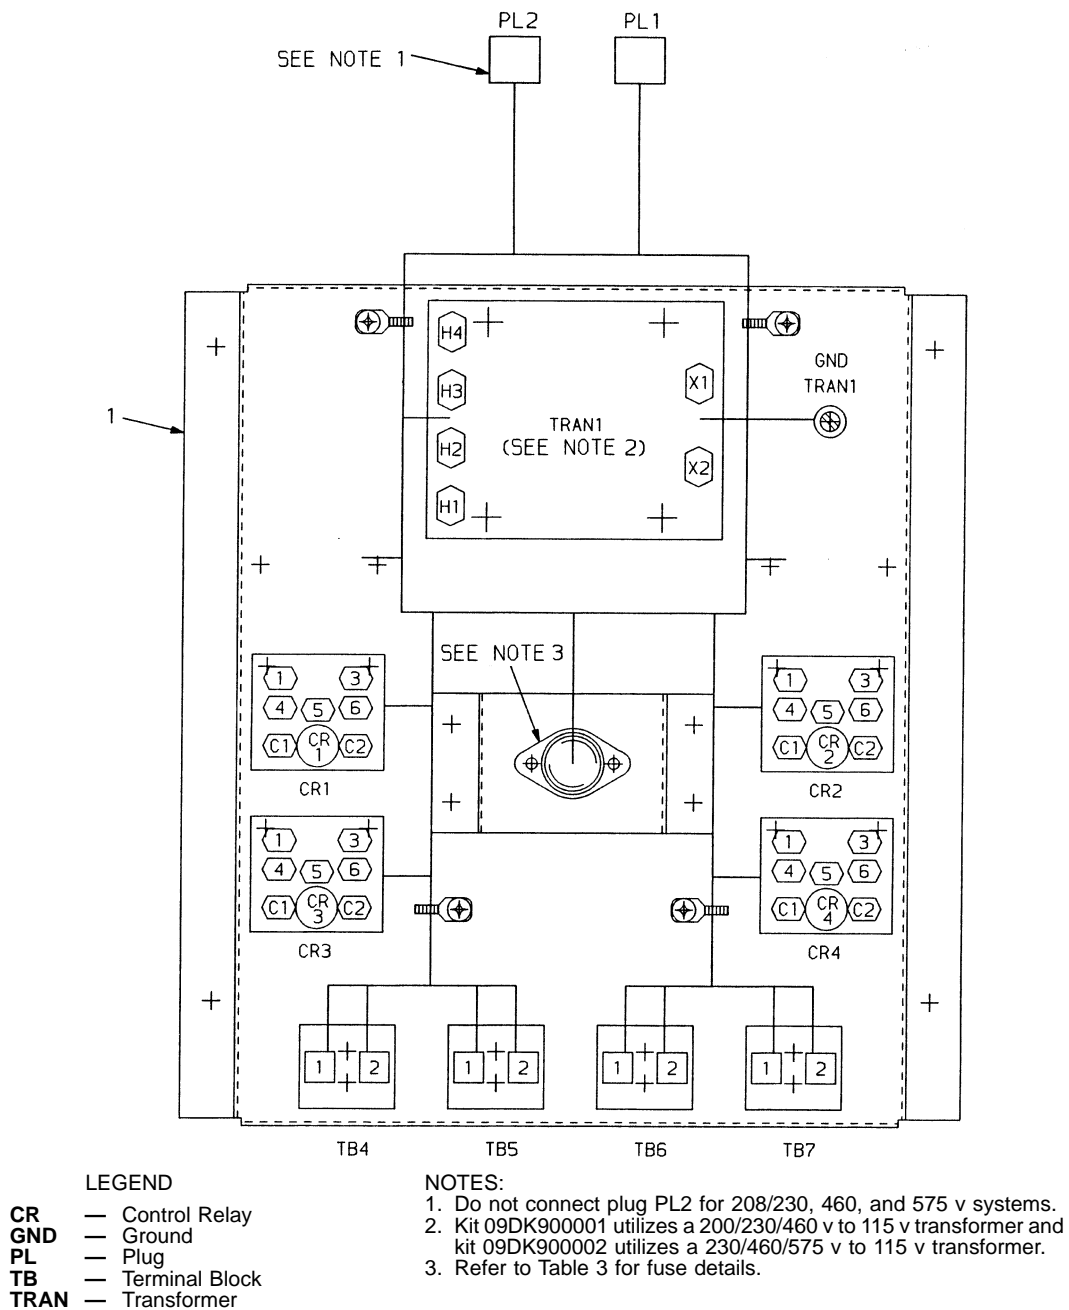

Fig. 2 — 208/230, 460, 575 v Control Panel
2. The control panels for these kits are shown in Fig. 2 and 3.
NOTE: Be sure the control panel matches the unit voltage. See Fig. 2 and 3 for control panel details.